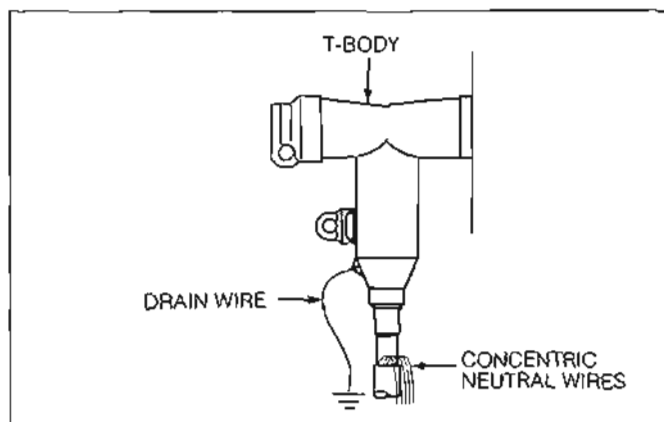

Figure 15.
- Connect tie-off tab of T-Body with at least one strand of drain wire to cable concentric neutral wires or to common ground point. (Refer to Figure 15.)